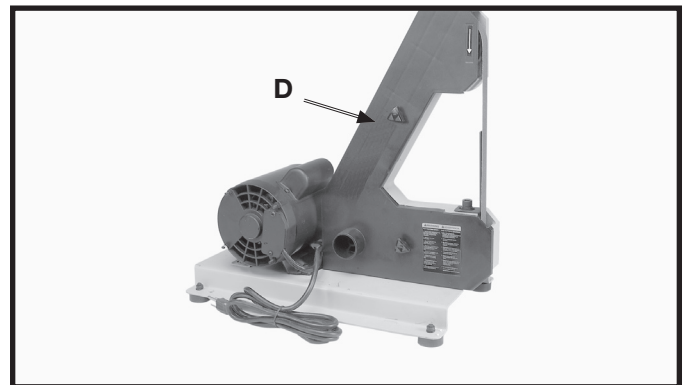

Fig. 3
3. Fig. 3, illustrates the belt unit (D) assembled to the base.